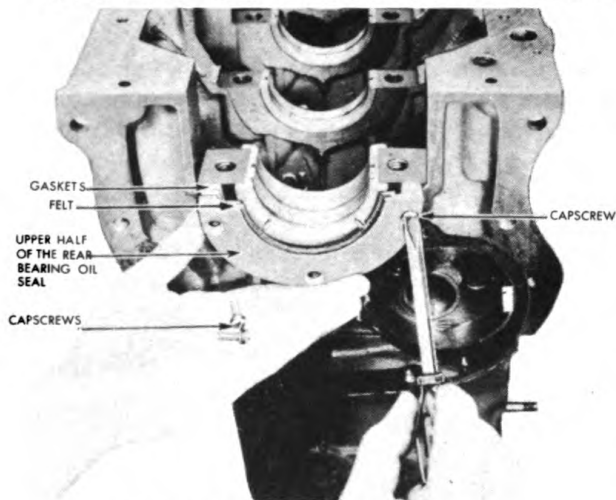

Figure 138. Removing Upper Half Oil Seal.
35. Remove the upper half of the bearing oil seal and discard the felts and gaskets. See Figure 138.